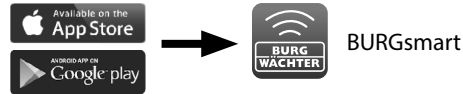

Fig. 1
- 1 First of all, download the *BURGS*mart app in order to be able to set up your new locking system. This can be found in the iOS App Store and Google Play Store (Fig. 1).